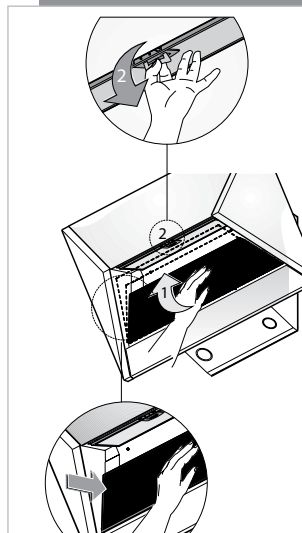

Fig. 2
1. Open the glass cover panel as shown in fig 2.
2. Pull open the handle on the grease filter as shown in fig. 2. It will release at the handle side. Then lower the grease filter to remove it completely.